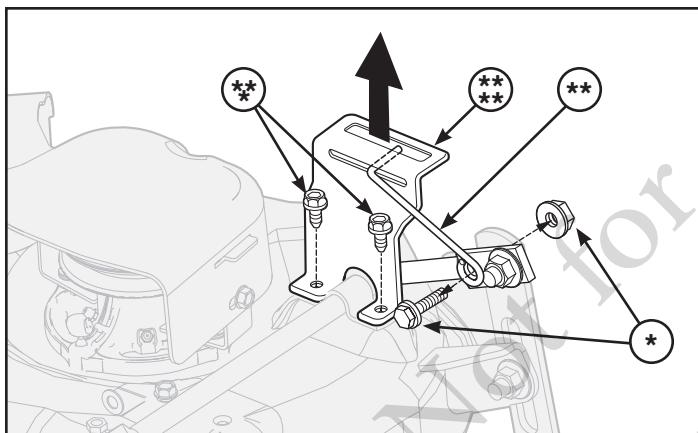

Figure 1
1. Remove the bolt and nut (*, Figure 1) securing height of cut indicator (**). Retain indicator, bolt and nut.